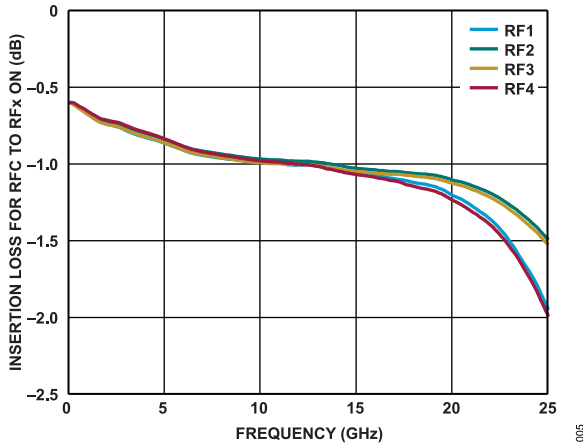

Figure 5. Insertion Loss for RFC to RFx On vs. Frequency
6. The ADRF5050-EVALZ is expected to have an insertion loss of 1.20 dB at 20 GHz. See the expected results in Figure 5.